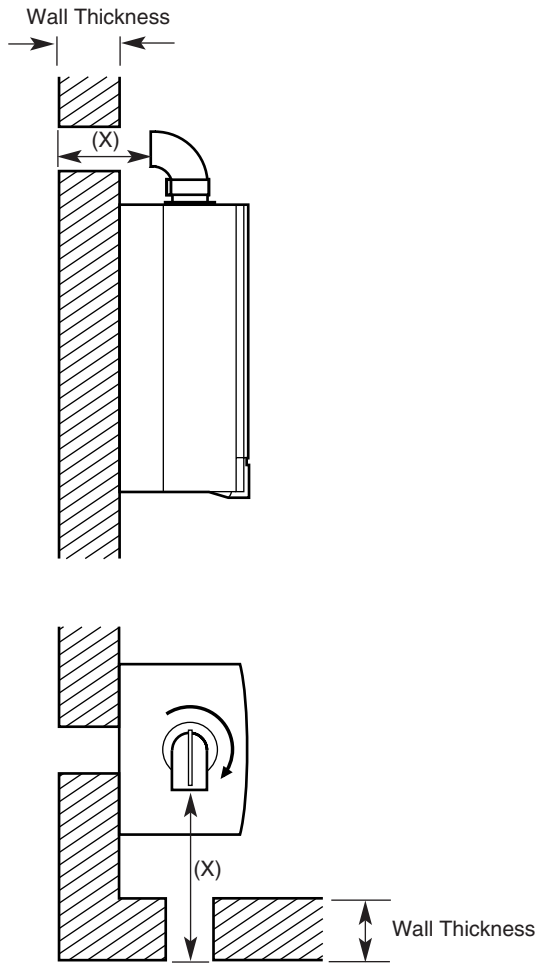

Fig. 27
3. Measure the distance from the outside wall face to the elbow (Fig. 27). This dimension will be known as 'X'.